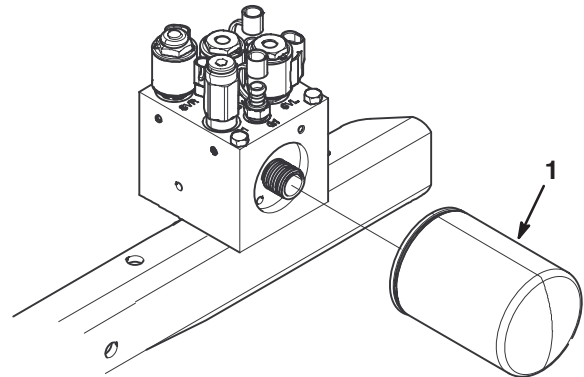

Figure 1
4. Remove the current return hydraulic filter and drain the reservoir (Fig. 1). Discard filter. Install the new return filter (107-9531) to avoid system contamination during remainder of process.